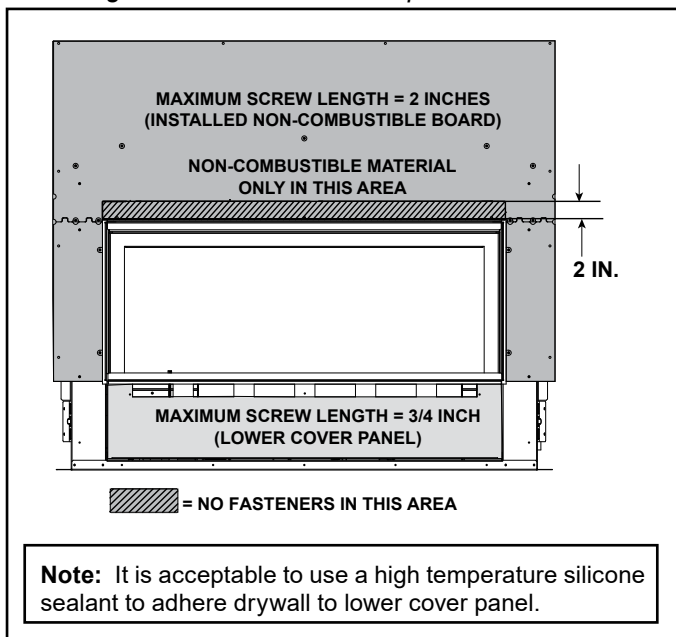

Figure 10.1 Screw Length Requirements
- Seal gaps between the finished wall and appliance top and sides using a 300 °F minimum sealant. Refer to Figure 10.1.
When finishing the wall around the fireplace, it is critical that wall sheathing be fastened properly. Wall sheathing fasteners, such as screws or nails, are not permitted in some locations. See Figure 10.1.
It is acceptable to pre-drill holes and use self-tapped screws in the factory-included non-combustible board which may be used to lathe (a backer for tile, marble, etc.). Screws being installed through the installed non-combustible board should be self-tapping type with a maximum length of 2 inches. See Figure 10.1.
When installing finish material on the lower cover panel, DO NOT drill or install screws longer than 3/4 of an inch. Screws longer than 3/4 of an inch could penetrate the lower cover panel causing damage to components or penetrate the gas line. See Figure 10.1.
- Step 1:** Fill all gaps and joints between the non-combustible board pieces and the drywall with a general purpose chemically setting joint compound such as Durabond® 45 Joint Compound manufactured by USG (Sheetrock® brand), recommended by Hearth & Home Technologies. Use a drywall knife to firmly press the joint compound into all gaps. See Figure 10.1. Allow these joints to dry.